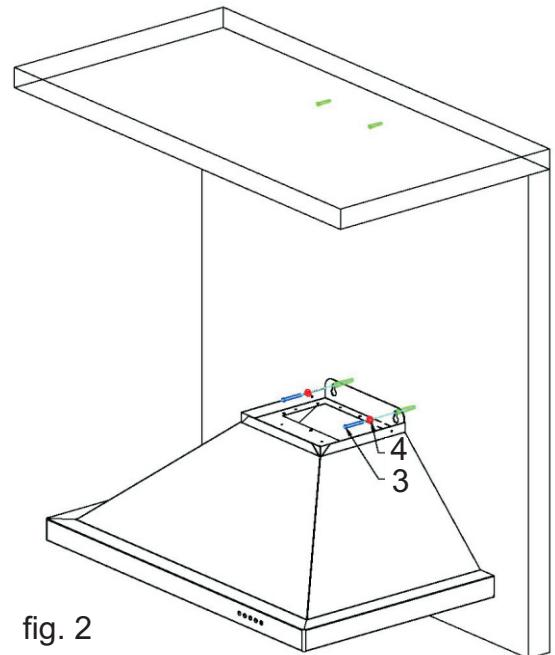

fig. 2
**Step three:** Mount the main body of the hood to the two screws and screw into place. fig 2